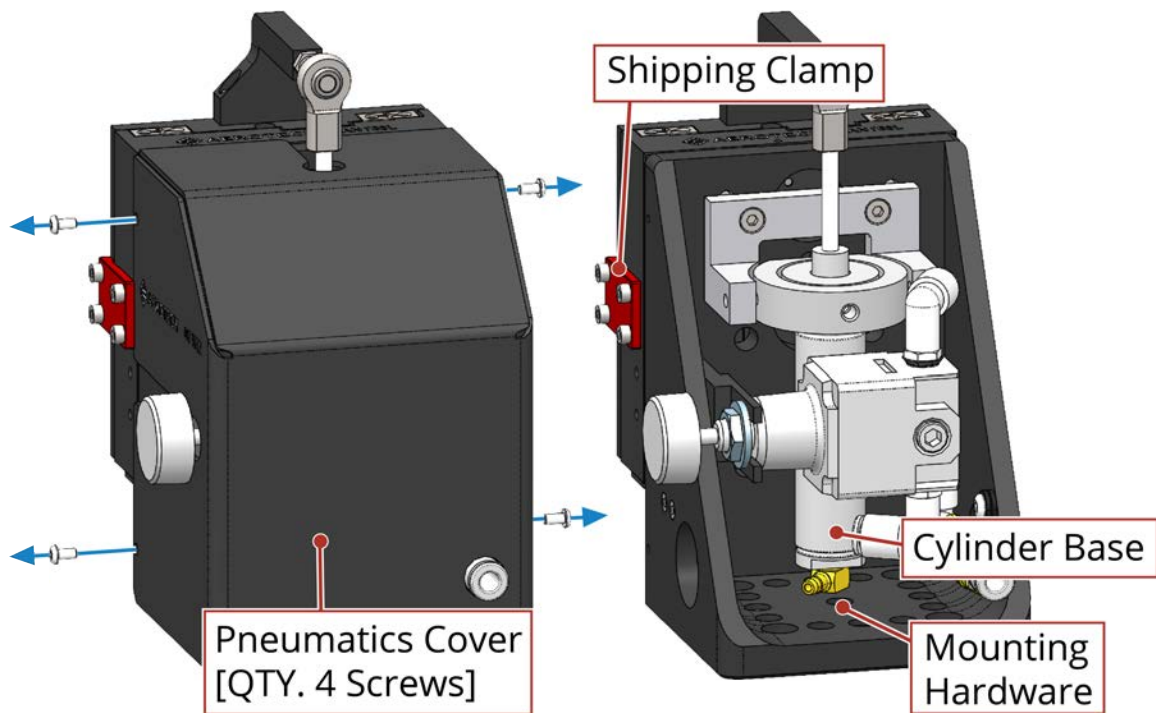

Figure 2-4: Mounting Hole Pattern (and Pneumatic Cylinder Clearance)
2. Remove the pneumatics cover. It is attached to the vertical angle bracket with four M3 button head screws (Figure 2-4).